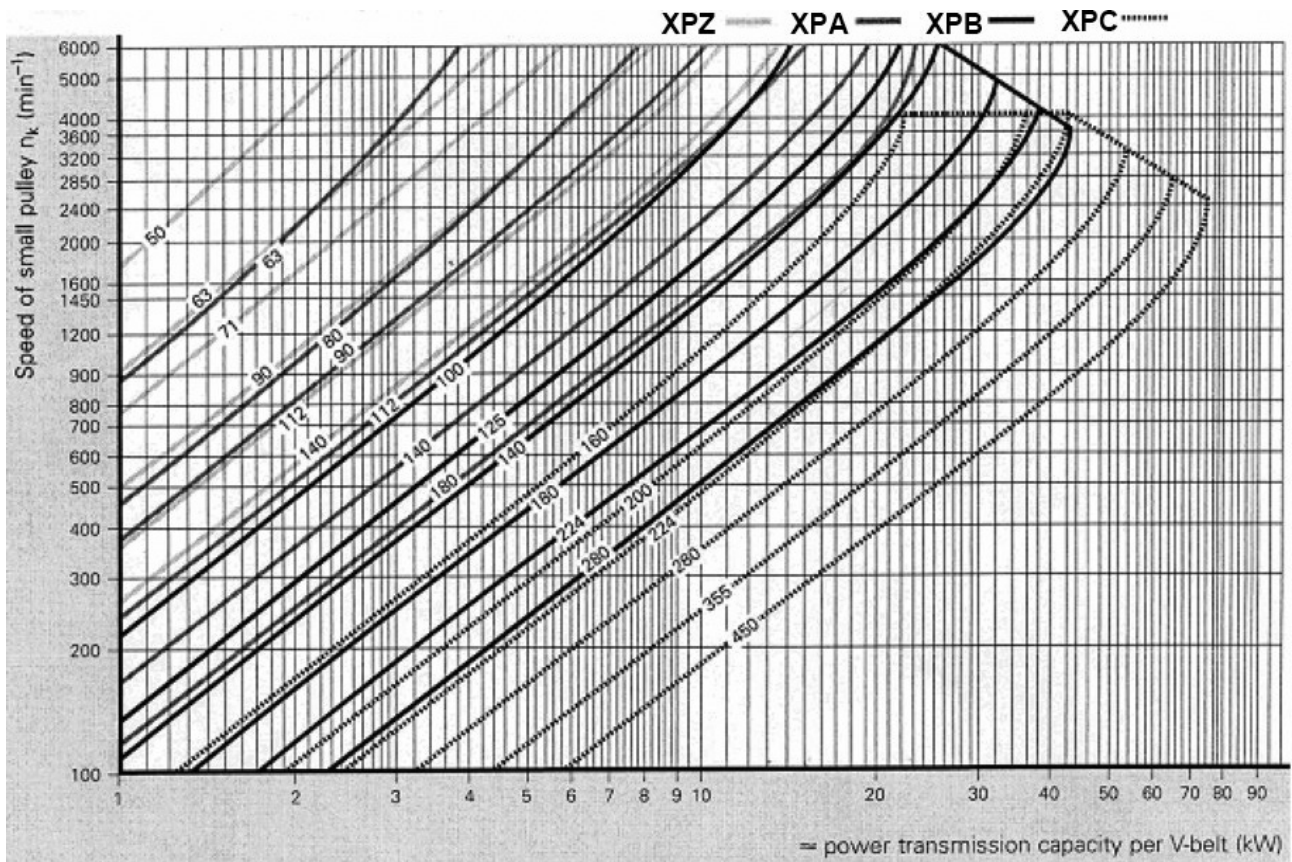
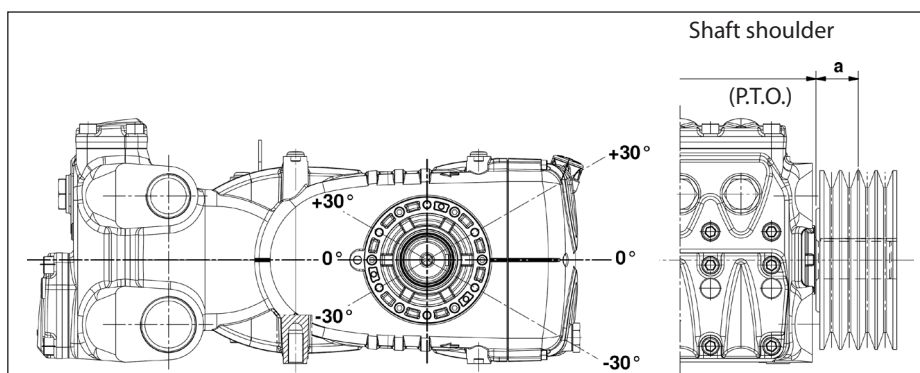

Fig. 8
Fig. 11
For this pump model, we recommend use of 4 XPB belts (16.5x13 serrated). Use an XPC profile only for long durations. Both the characteristics and transmissible power of each belt can be verified in the diagram in Fig. 8, in relation to the number of rpm normally declared by the manufacturer. Minimum duct pulley diameter (on pump shaft): ≥ 250 mm. The radial load on the shaft must not exceed 7500 N (value necessary for Layout definition). The transmission is considered adequate if the load is applied to a maximum distance **a = 40 mm** from the shaft shoulder (P.T.O) as shown in Fig. 11.
- b) Use high performance belts – for example **XPB** instead of **SPB** – as a lower quantity of belts for the same transmitted power may be necessary and a consequent shorter resulting distance compared to the shaft shoulder (P.T.O) "a" of Fig. 11.
- e) Follow the direction of the belt pull as shown in Fig. 11 for other needs, contact our **Technical** or **Customer Service Departments**.